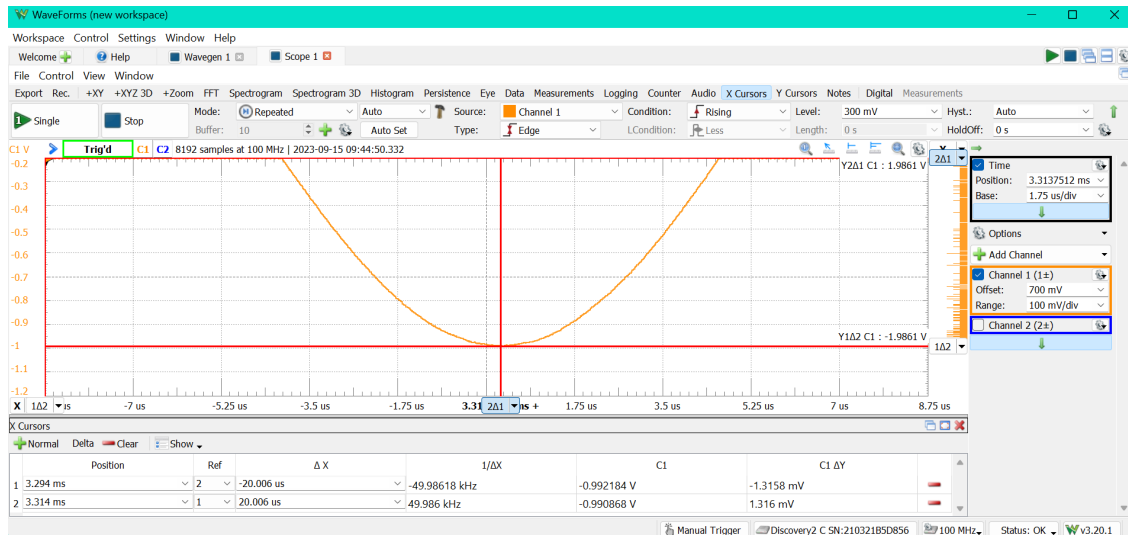

Figure 6: Measuring Period of Output With X Cursors
Figure 6 shows the cursors which gives a peak-to-peak voltage of  $1.9861 \pm 0.00005$  V. Accounting for how as a single analog measurement, we divide the raw uncertainty by  $\sqrt{6}$ , to get  $1.9861 \pm 0.00002$  v.
**Corrections:** - The screenshot in Figure 6 was taken before I zoomed in further on the scope for more accuracy. - Also, since manually moving the cursors makes it an analog measurement depending on the scope graph's resolution rather than the decimal places my previous error statement was made on. Since the major tick marks are 25 mV apart, and there are 10 minor tick marks, we have an uncertainty of 2.5 mV. Dividing by  $\sqrt{6}$ , we get 1.02 mV. Thus, the proper reading for peak-to-peak amplitude is  $1.9861 \pm 0.001$  V.